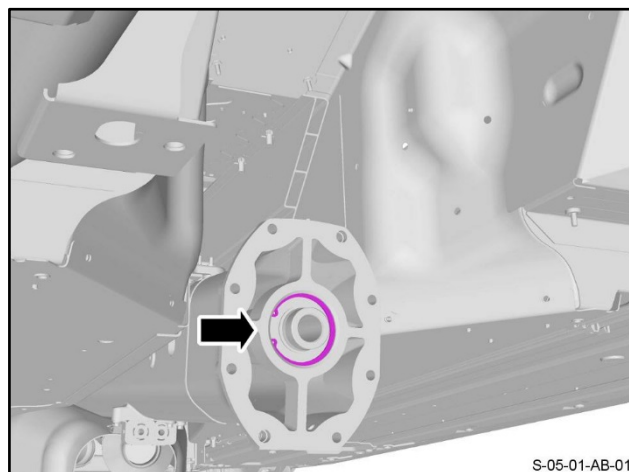

Figure 45
87. Install the circlip that keeps the propeller shaft in the torque tube (refer Figure 45).